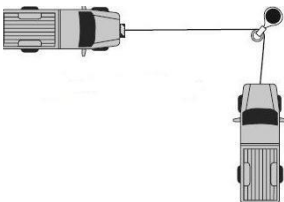

Fig. 7
9. If the object to be pulled must be pulled at an angle, use a pulley (not included) and an anchor point directly in front of the winch (Fig. 7).